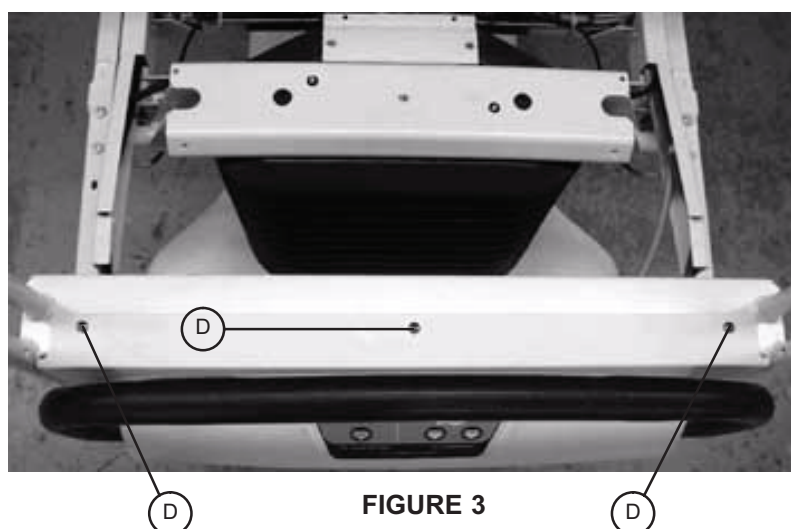

FIGURE 3
6. Using a #2 Phillips screwdriver, remove the three screws (D) holding the control bar cover to the head end of the bed (see Figure 3).